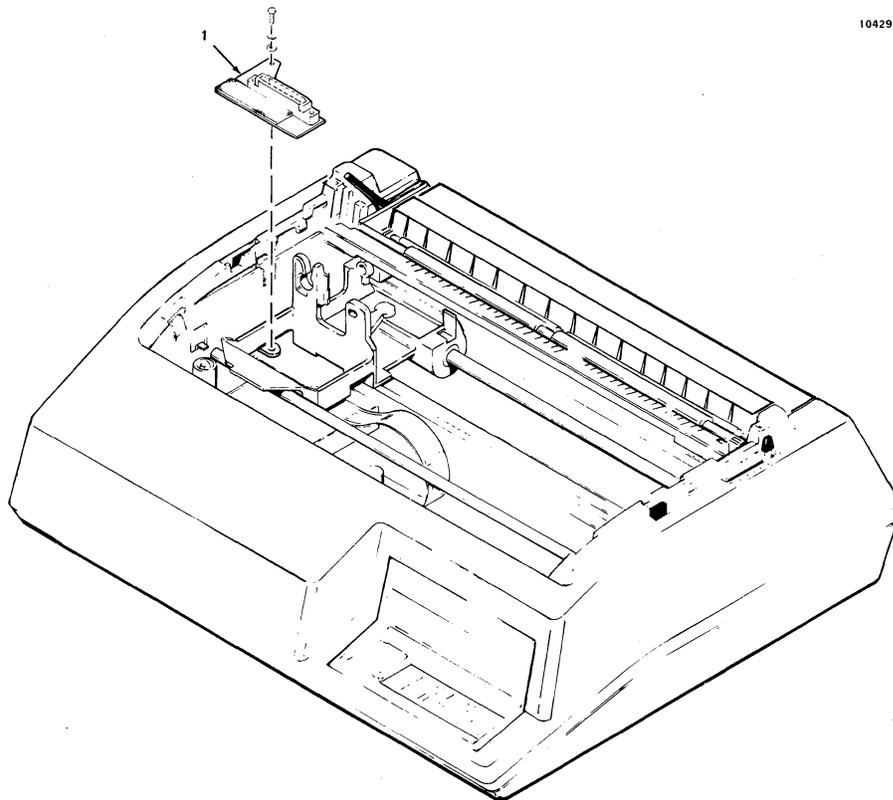

Figure 5-4. REMOVAL/REPLACEMENT, HEAD ADAPTER PCB
The Head Adapter pcb, item 1 of Figure 5-4, is attached to the carriage assembly and is removed using a Philips head screwdriver. To remove the Head Adapter pcb, refer to Figure 5-4 and perform the following steps: